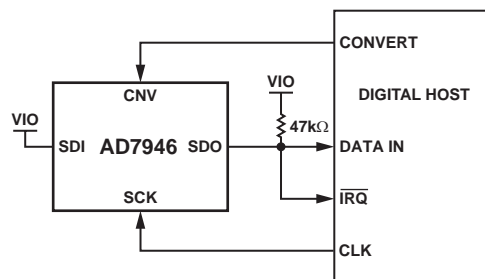
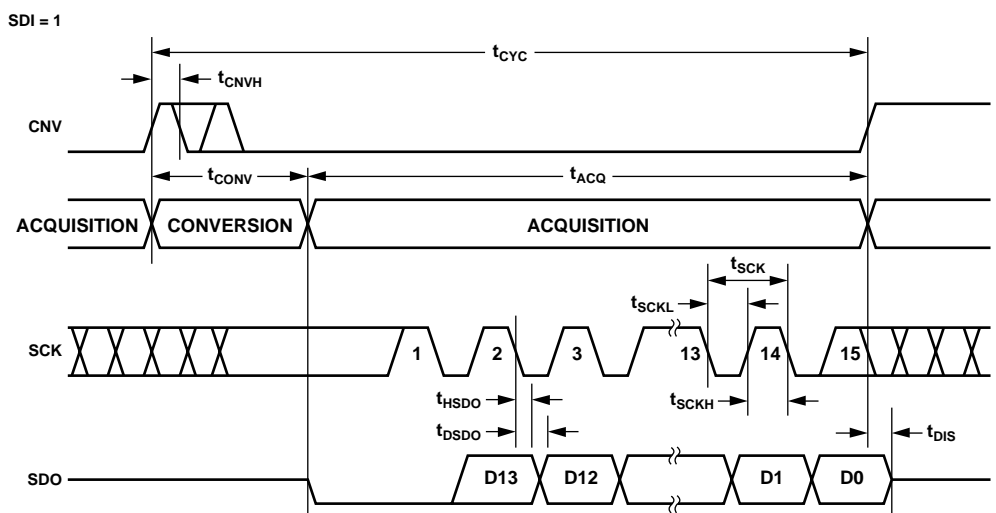
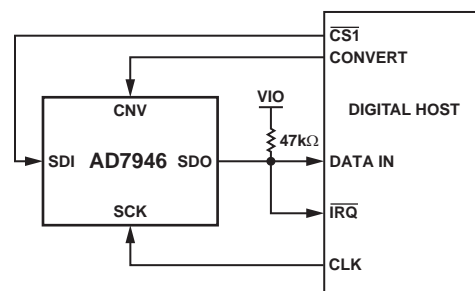
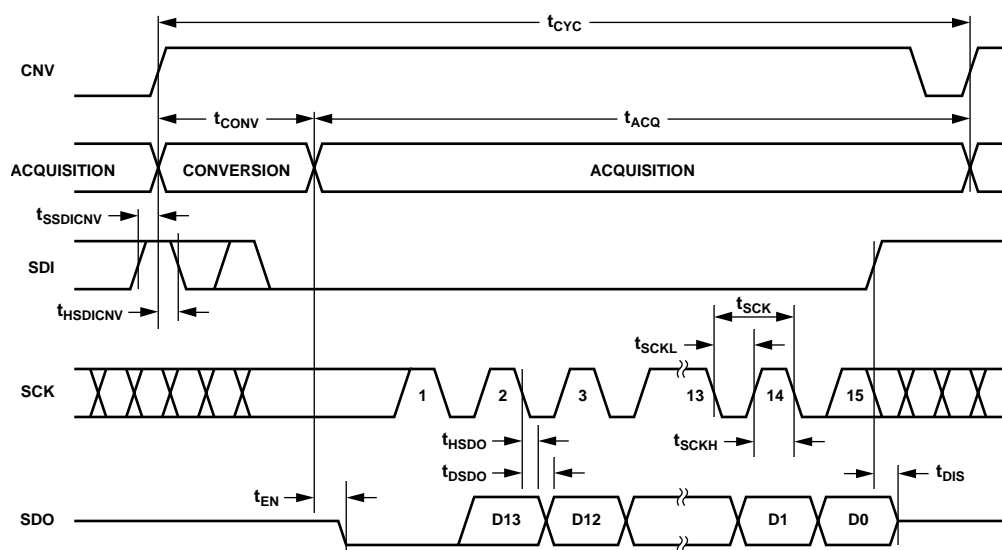

Figure 31. \overline{CS} Mode 3-Wire with *BUSY* Indicator Connection Diagram (SDI High)
Figure 32. \overline{CS} Mode 3-Wire with *BUSY* Indicator Serial Interface Timing (SDI High)
Figure 35. \overline{CS} Mode 4-Wire with *BUSY* Indicator Connection Diagram
Figure 36. \overline{CS} Mode 4-Wire with *BUSY* Indicator Serial Interface Timing
- In the $\overline{\text{CS}}$ mode, if CNV or SDI is low when the ADC conversion ends (Figure 32 and Figure 36).
The connection diagram is shown in Figure 31 and the corresponding timing is given in Figure 32.
The connection diagram is shown in Figure 35 and the corresponding timing is given in Figure 36.